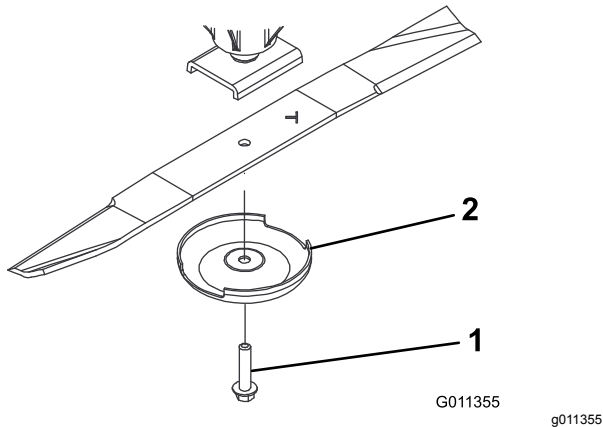

Figure 124
3. Remove the blade bolt, anti-scalp cup, and blade from the spindle shaft (Figure 124).